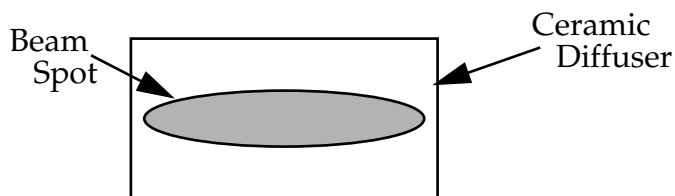

Figure 5-13. Beam Image on Properly Aligned Retro-Reflection Ceramic.
5. Position a beam dump, on the Infinity head baseplate, to collect the output beam (1064, 532 and 266 nm radiation). Increase the voltage until the threshold for FHG is reached. Position the FHG retro-reflection ceramic so that the beam is centered on the ceramic and is elongated to cover as large an area on the ceramic as possible, see Figure 5-13.